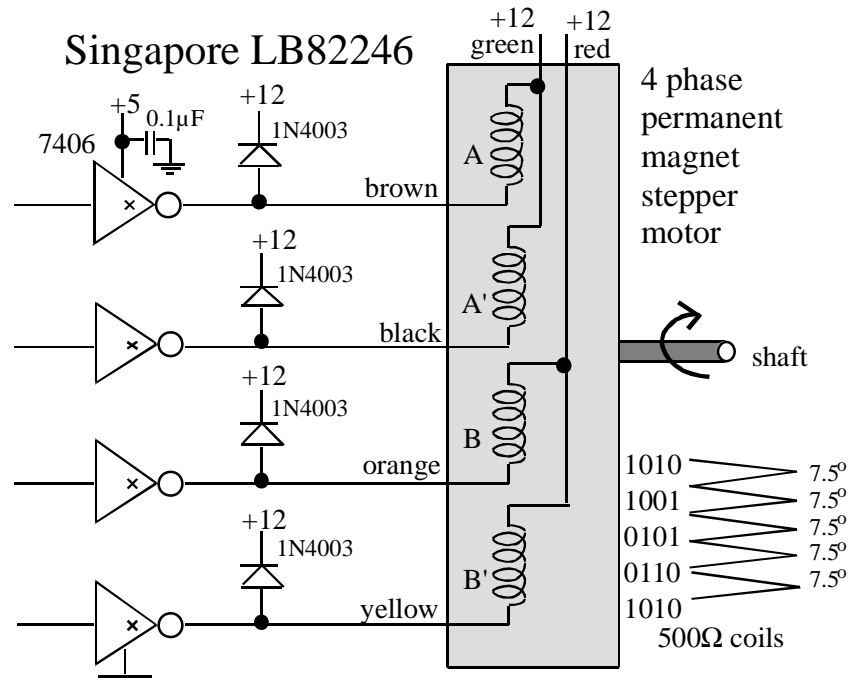

Figure 5.2. Singapore LB82246 Stepper Motor Specifications
this before your lab period, without any connections to the 6812 board. Design the hardware interface between the 6812, and prepare a circuit diagram labeling all resistors and diodes. An interface for a Singapore LB82246 stepper is shown in Figure 5.2. Include pin numbers and resistor/capacitor types and tolerances. Be sure the interface circuit you select can sink enough current to activate the coil. Make sure you have all the parts you need before lab starts.
1. Stepper motors other than the *Singapore LB82246* will have different coil resistances and different coil voltages. Be sure the interface driver (e.g., the 7406 in Figure 5.2) has an  $I_{OL}$  large enough to deliver the needed coil current. Please do not use the Adapt812 +5V regulated supply to run external components that require more than 100 mA of current. Although many steppers will operate at voltages less than the rated voltage, the torque is much better when using the proper voltage. Remember to actually measure the coil current rather than dividing voltage by resistance.